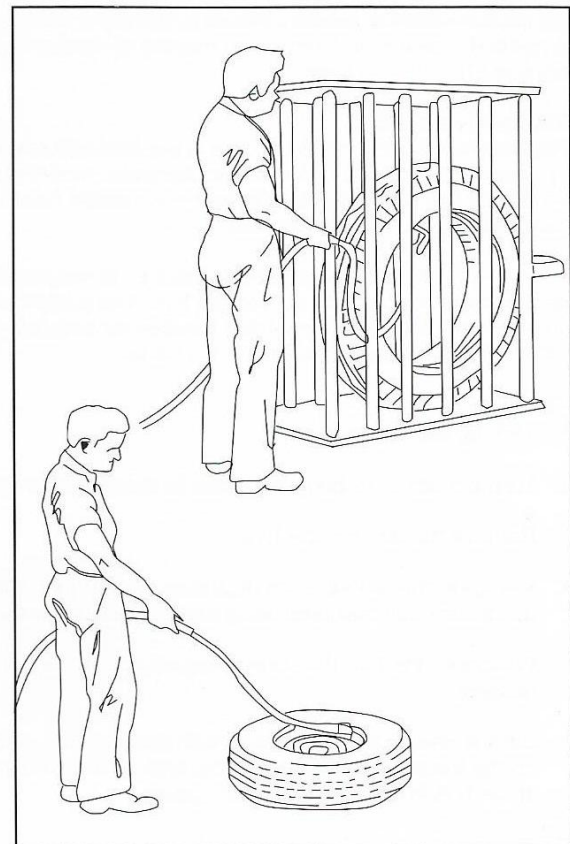

Fig. 113
- ▲ Always use a safety cage if available (Fig. 113)